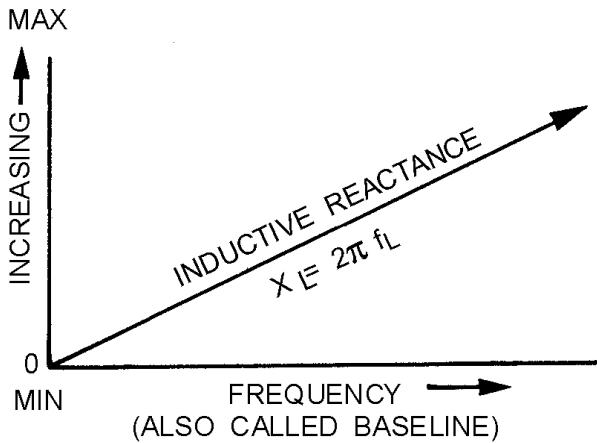
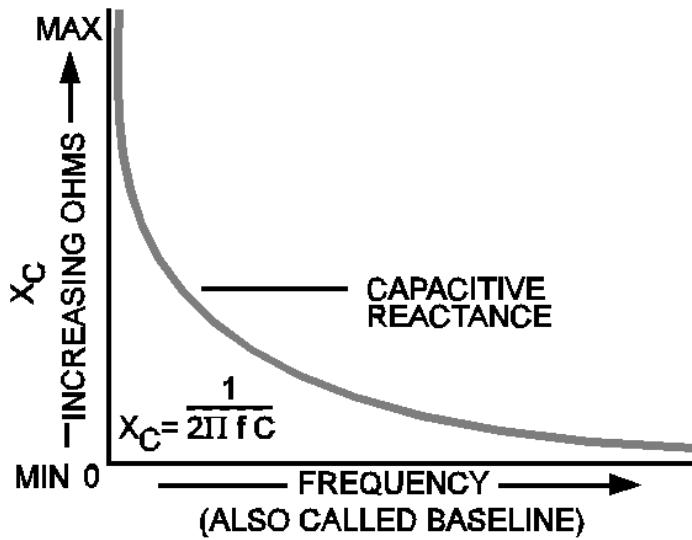
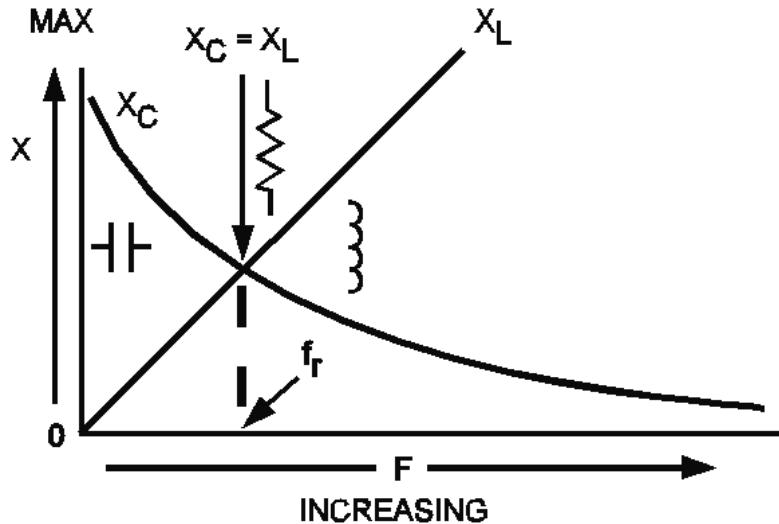

Figure 1-2.—Effect of frequency on inductive reactance.
Figure 1-3.—Effect of frequency on capacitive reactance.
Figure 1-5.—Relationship between X_L and X_C as frequency increases.
As shown in the equation, any increase in frequency, or "f," will cause a corresponding increase of inductive reactance, or " X_L ." Therefore, the INDUCTIVE REACTANCE VARIES DIRECTLY WITH THE FREQUENCY. As you can see, the higher the frequency, the greater the inductive reactance; the lower the frequency, the less the inductive reactance for a given inductor. This relationship is illustrated in figure 1-2. Increasing values of X_L are plotted in terms of increasing frequency. Starting at the lower left corner with zero frequency, the inductive reactance is zero. As the frequency is increased (reading to the right), the inductive reactance is shown to increase in direct proportion.
As shown in figure 1-3, the effect of capacitance is opposite to that of inductance. Remember, capacitance causes the current to lead the voltage by 90 degrees, while inductance causes the current to lag the voltage by 90 degrees.
A.c. circuits that contain both an inductor and a capacitor have interesting characteristics because of the opposing effects of L and C. X_L and X_C may be treated as reactors which are 180 degrees out of phase. As shown in figure 1-2, the vector for X_L should be plotted above the baseline; vector for X_C , figure 1-3, should be plotted below the baseline. In a series circuit, the effective reactance, or what is termed the RESULTANT REACTANCE, is the difference between the individual reactances. As an equation, the resultant reactance is:
The universal reactance curves of figures 1-2 and 1-3 are joined in figure 1-5 to show the relative values of X_L and X_C at resonance, below resonance, and above resonance.